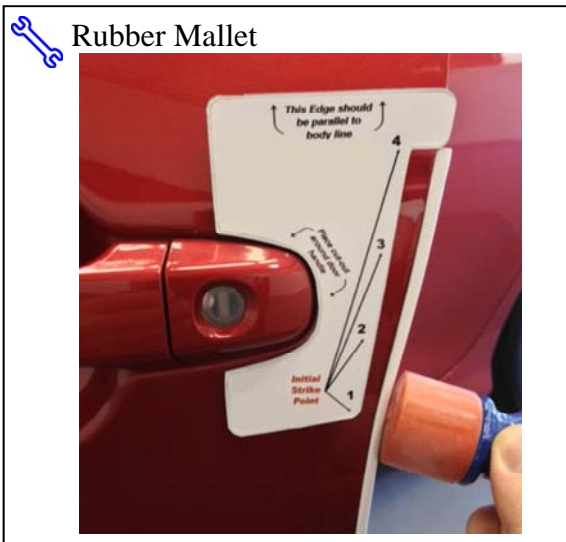

Fig. 1-6
(4) Mallet blows need to be delivered squarely (broad face contact opposed to point contact) to the spine of the molding, and perpendicular to the door edge as shown. While holding DEG in proper alignment with one hand, use **soft side of the rubber mallet** to begin tapping the channel onto the door edge, starting at Striking Point #1 on the template (~3" inches below the top of the DEG). Ensure the channel is fully engaged onto the door edge before proceeding to the next step (Fig. 1-6).